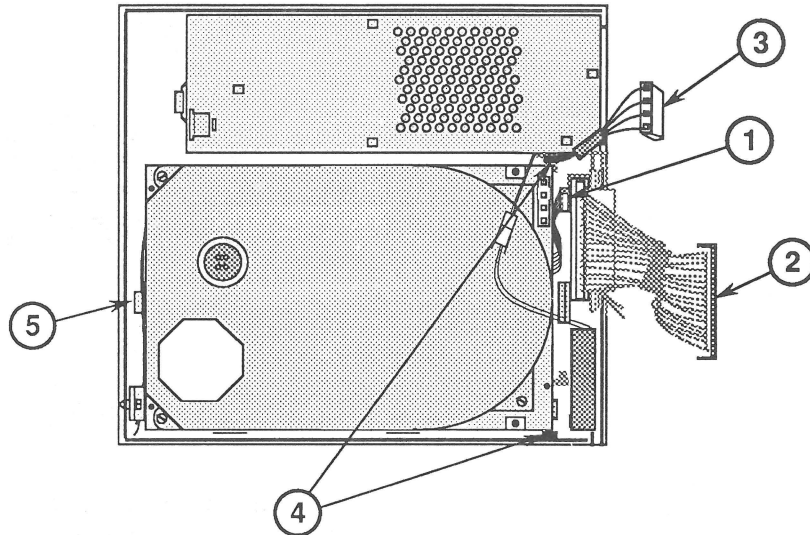

FIGURE 10
3. Connect the SCSI select switch connector (Figure 10, #1).
4. Connect the HDA-to-case cable (Figure 10, #2) to the hard disk assembly, and close the end tabs.
5. Connect the power supply connector (Figure 10, #3).
6. Slide the hard disk assembly toward the small tabs (Figure 10, #4) on the case bottom until the back edge of the metal frame is in place under the tabs.
7. Push back the holding tab (Figure 10, #5), and carefully settle the hard disk assembly into place.